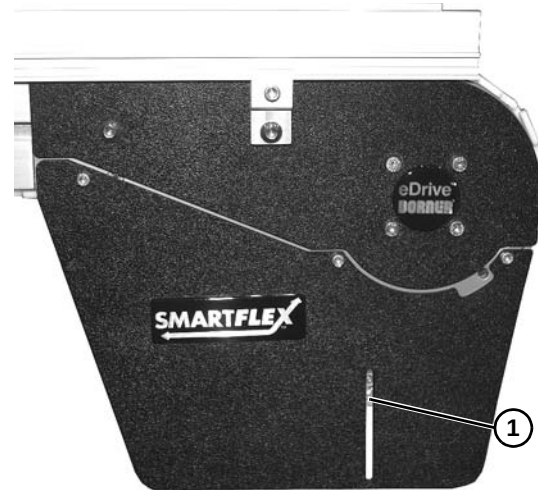

Figure 21
*Before inserting belt rod to connect belt ends, be certain that the slack on belt is showing in slotted area (**Figure 21, item 1**) on conveyor drive end.*